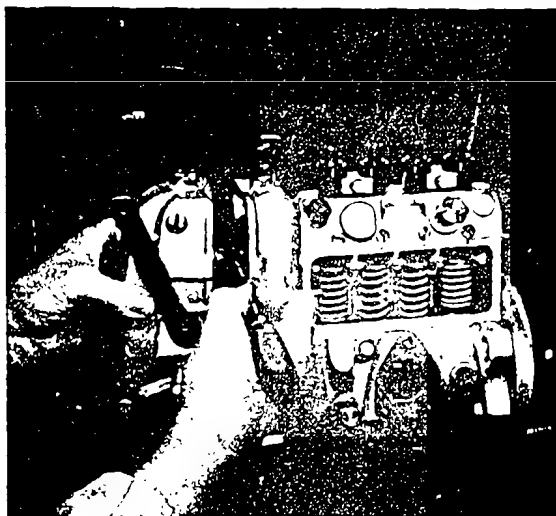

Fig. 6 Removing link from control rack
2.2. 3. Release link (48) from control rack by spreading the leaf spring (Fig. 6).